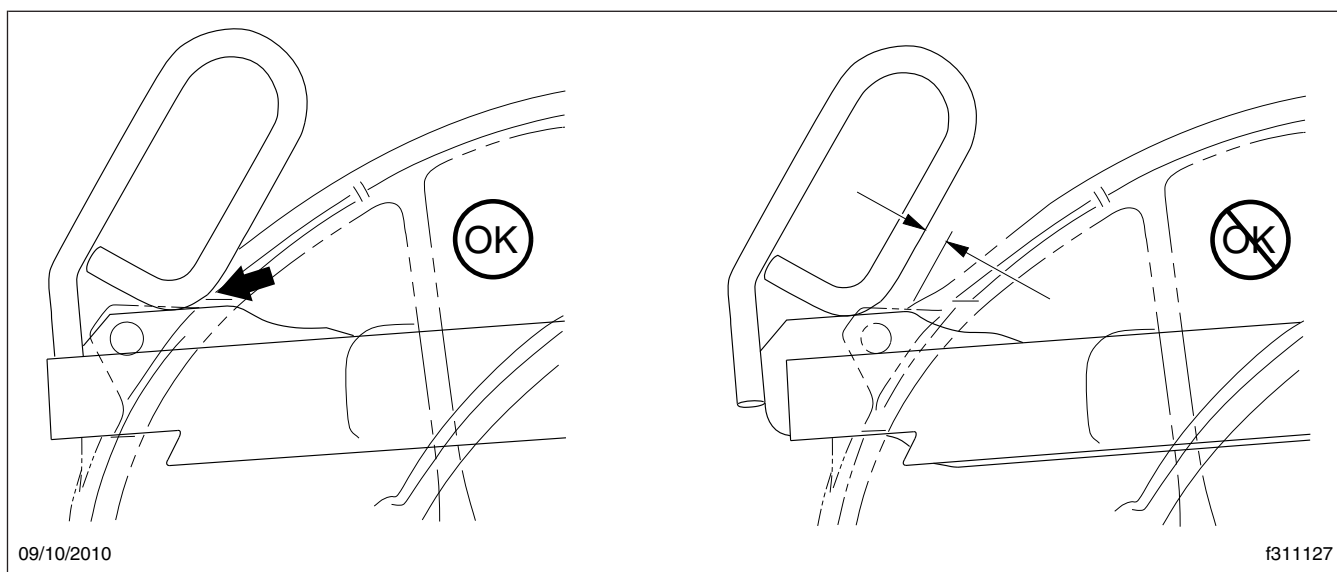

Fig. 18.8, Jost Release Handle Locked
- Ensure that the release handle is in the locked position adjacent to the casting. See Fig. 18.8.